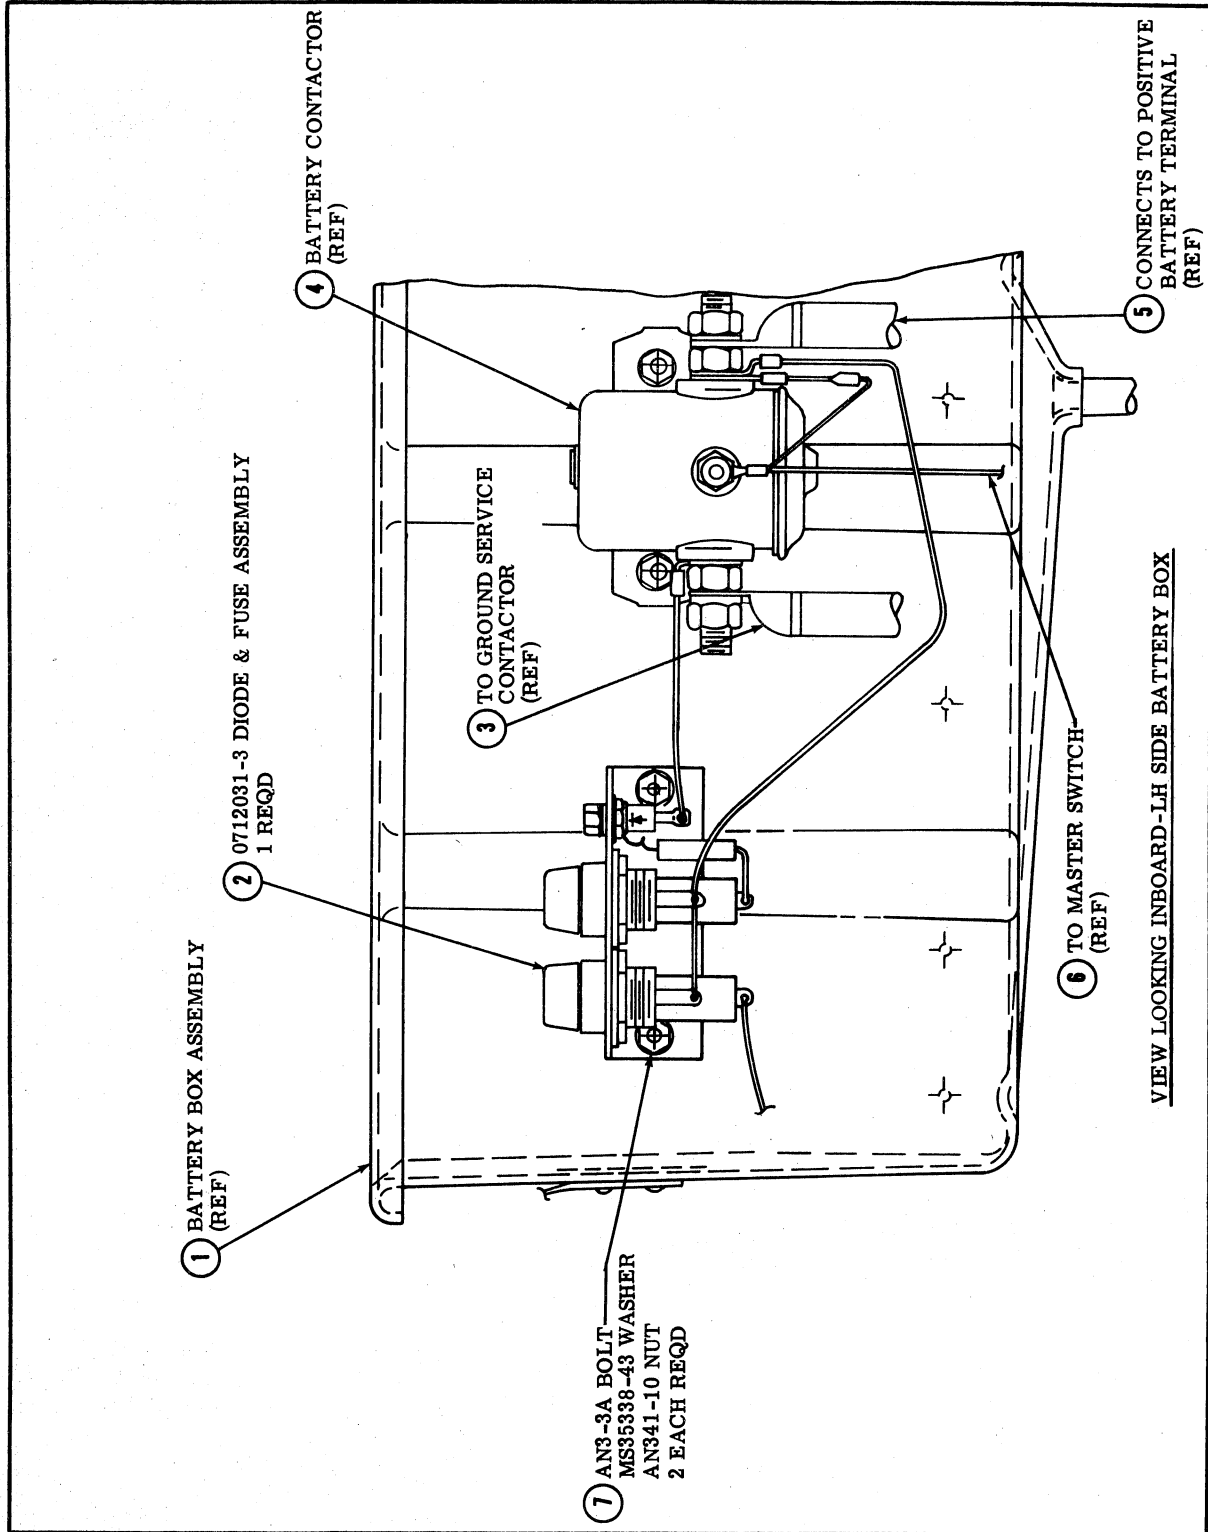

Figure 3. Diode and Fuse Assembly Installation.
- (1) Secure contactor (17) to bracket (1) with bolts (18).
- (2) Connect cable (11) to contactor (17) as shown.
- (3) Install nipple (16) after fabricating wire from contactor (17) to diode board (22).
d. (Refer to figure 3.) Fuse and Diode Installation.
- (1) In accordance with illustration locate existing holes in battery box and install fuse and diode assembly (2) using bolts, washers, and nuts (7).